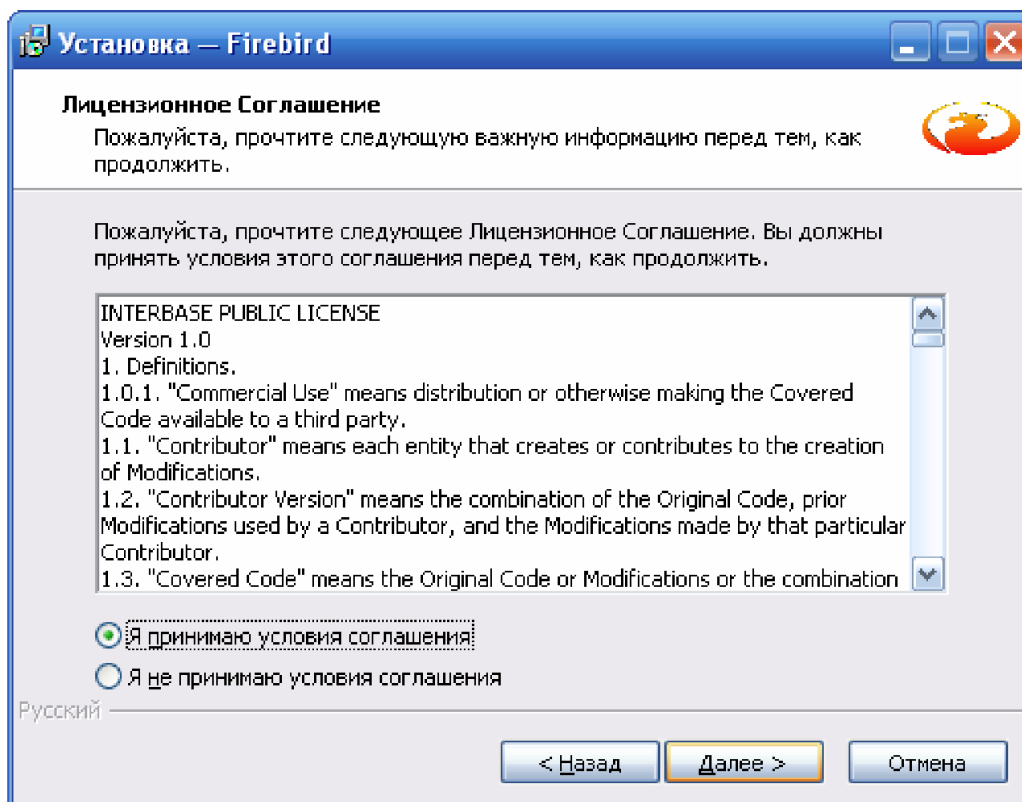

Figure 7. Installing Firebird - step 2.
Step 2 is the license agreement (Figure 7). Select the item “I agree to the terms of the agreement”, then click the “Next” button.